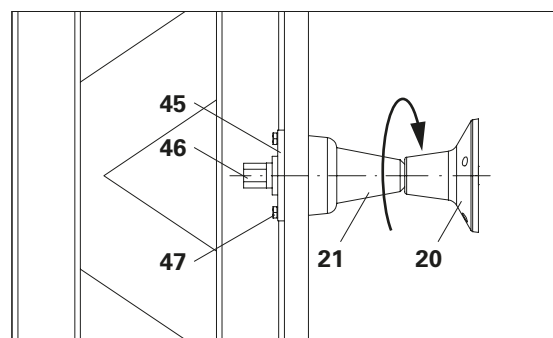

Fig. A5.11
2. From the front side of the formlining, tightly screw on the tie (**20 + 21**). (Fig. A5.11)